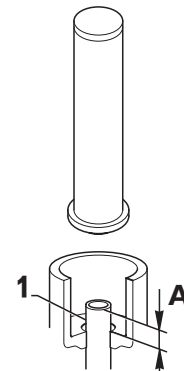

FIG. 4-2b
- Press into housing over the oil suction pipe the seal using the appropriate punch (Fig. 4-2b).